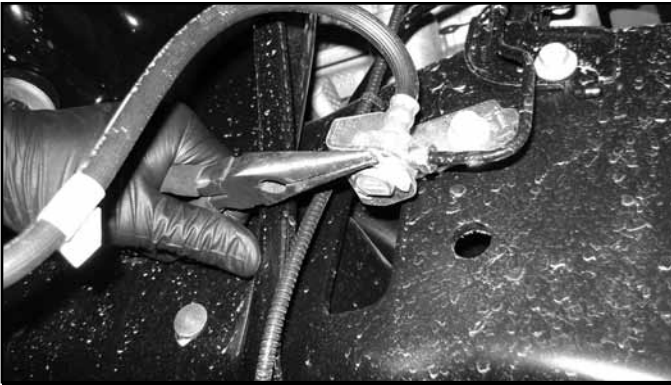
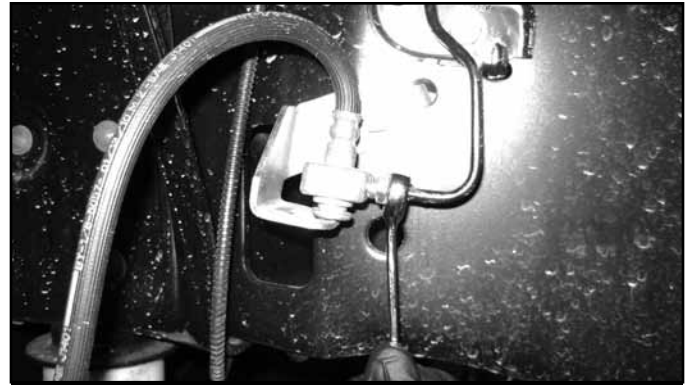

Fig. 2A
Fig. 2B
7. Remove the clips holding the front brake lines to the brackets on the frame. (Fig 2A) Using a proper line wrench, break loose the hard line at the junction block and rotate it 180 degrees. (Fig 2B) This will put the rubber line to the bottom. Tighten the hard line securely. Leave the brake line loose and save the retaining clip.